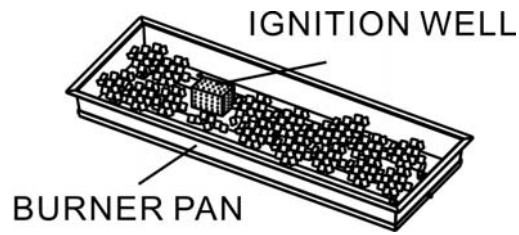

Figure 8
7. Pour ALL of the provided glass beads into the burner pan. Burner MUST be completely covered to ensure the appliance functions properly and safely. Remove any glass beads on top of the ignition well. See Figure 8.